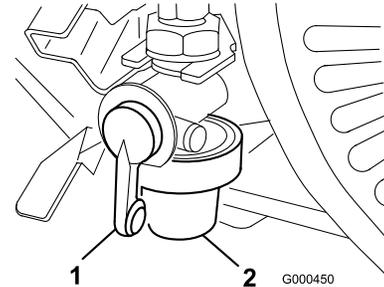

Figure 31
1. Close fuel shut off valve and unscrew bowl from filter body (Figure 31).